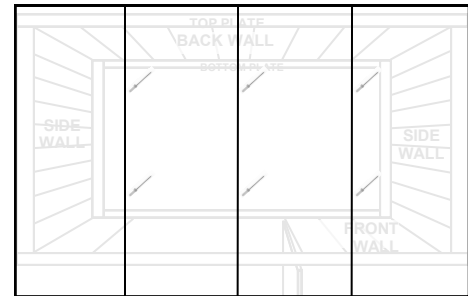

fig.1
- Rivet sheets together at overlaps with 2 x rivets per joint (**fig.1**).